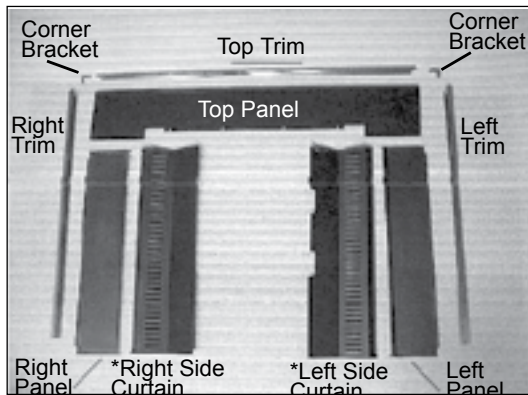

Figure 21.1 *Right and left side curtains are shipped with the insert.
1. Unpack and lay out parts face down (flanges up) on a non-abrasive surface as shown in **Figure 21.1**. Install (1) 8-32 x 3/8” screw into bottom tab of side panel.